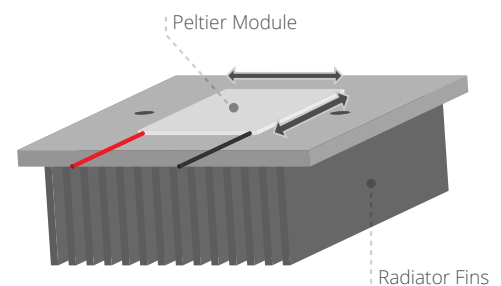

FIGURE 4. INSTALLING THE PELTIER MODULE
3) Place the heat-emitting side of the Peltier Module onto the appropriate place on the radiator fins. While applying light pressure to the unit, slide the unit back and forth, left and right, approximately 20 times to ensure a good fit and to lose any layer of air between the connecting sides. **[figure 4]**